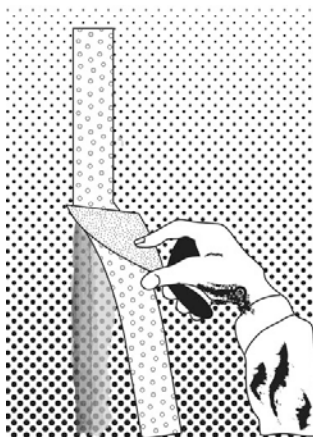

Figure 3-22. Applying paper tape over a wall joint.
3. After the tape is in place, cover it with a thin coating of joint compound. This aids in preventing the edges from wrinkling. It also makes it easier to hide the tape with the succeeding coats (fig. 3-22).